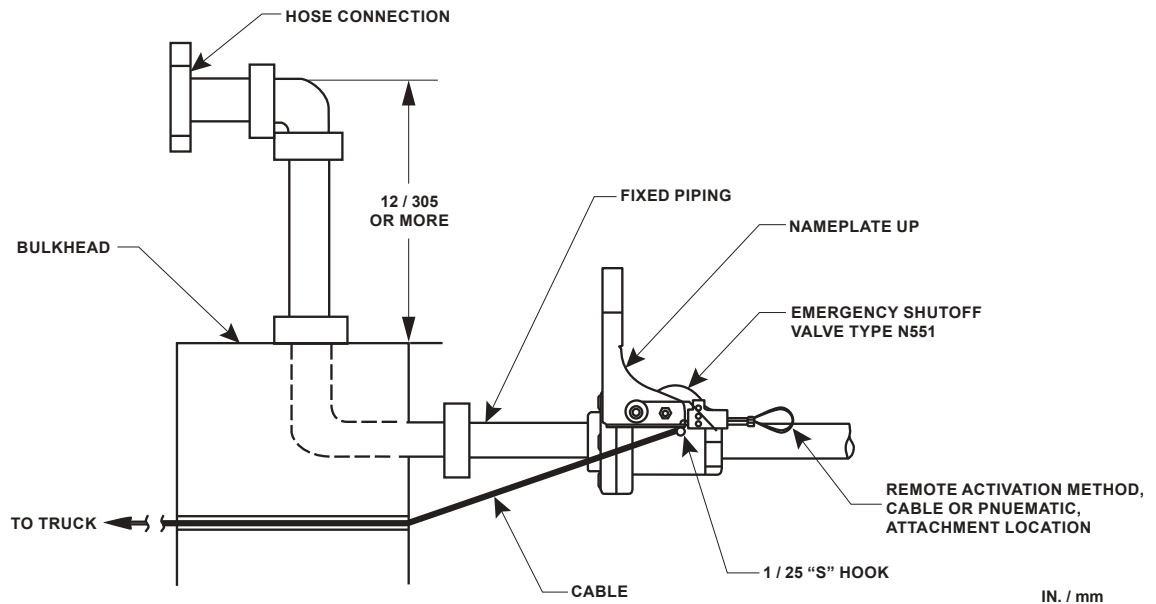

Figure 6. Motion Release Cable Installation (Optional)
1. Connect a suitable release cable such as stainless steel aircraft cable to a standard "S" hook. Attach the "S" hook to the Type N551 handle as shown in Figure 6.
2. The cable should run through the bulkhead just below and to the side of the pipe. The cable should be in line with the operating lever, refer to Figure 6.